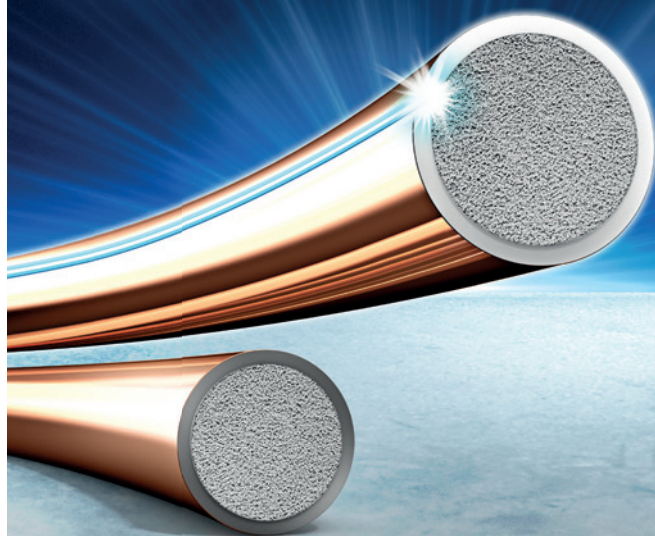

Fig. 1
Castolin Eutectic have announced that their brazing machines “Dyomix OHM 2.4” and “OHM 3.0” (Fig. 1) have been awarded with “The Solar Impulse Efficient Solution Label”, a certification that applies to products, processes and services which combine economic profitability and environmental sustainability. The label is a new framework that applies to all products, processes and services to indicate the quality and economic competitiveness of clean solutions. The brazing equipment “Dyomix OHM 2.4” and “OHM 3.0” are functioning on the basis of electrolysis, without gas and using water as sole fuel. The perfect flame resulted presents 85% less carbon monoxides (CO) and no damaging UV radiations, so there is no longer a need for tinted lenses for most applications. The noise level is also significantly reduced, which means improved health and safety for the operator. The machines are intended both for plumbing/refrigeration/heating professionals who need mobility and industrial manufacturers seeking great flexibility along with a low total cost of ownership. The “OHM 2.4” runs at 2 kW power and consumes 0,25 l water/h, while “OHM 3.0” runs at 3 kW, consuming 0,4 l water/h. Besides brazing, both machines are also suitable for metal cutting. The “dyomix” flame obtained is compatible with all brazing products (filler metals and fluxes) on the market. (Castolin Eutectic, 22 Avenue du Québec, Villebon-sur-Yvette, NA 91140/ France; www.castolin.com)